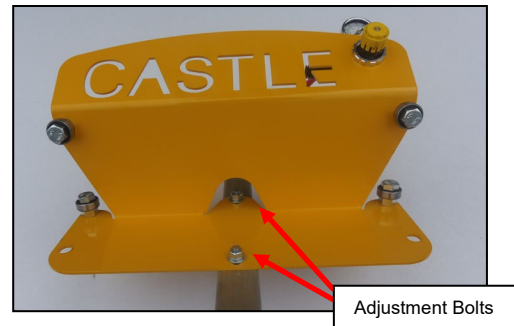

Fig 17
6. Slightly loosen the (2) bolts that attach the arm to the top bracket. (Fig 17)